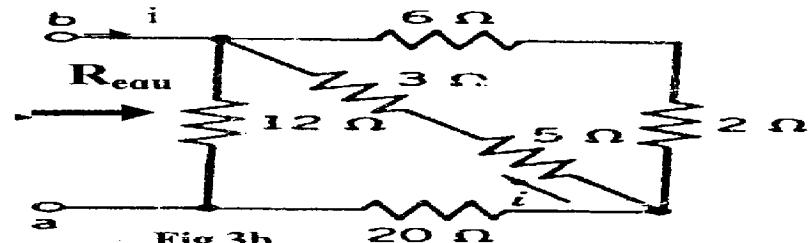

Fig.3b
- b. Find  $i$  and  $R_{eq}$  if  $V_{ab} = 80$  V in the circuit of figure 3b